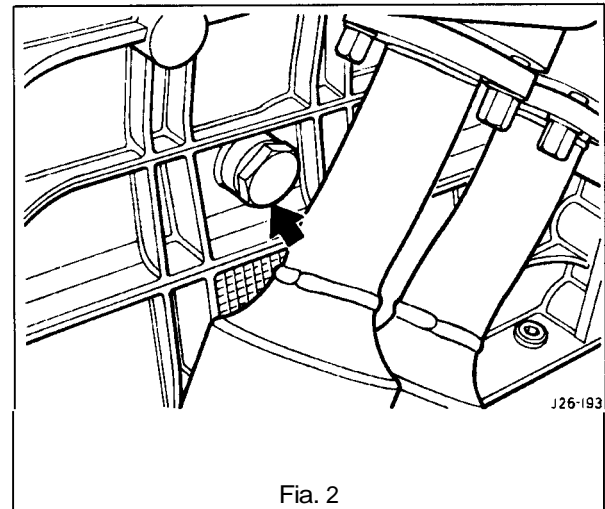

Fig. 2
- Place a drain tray under the cylinder block drain plug (Fig. 2).